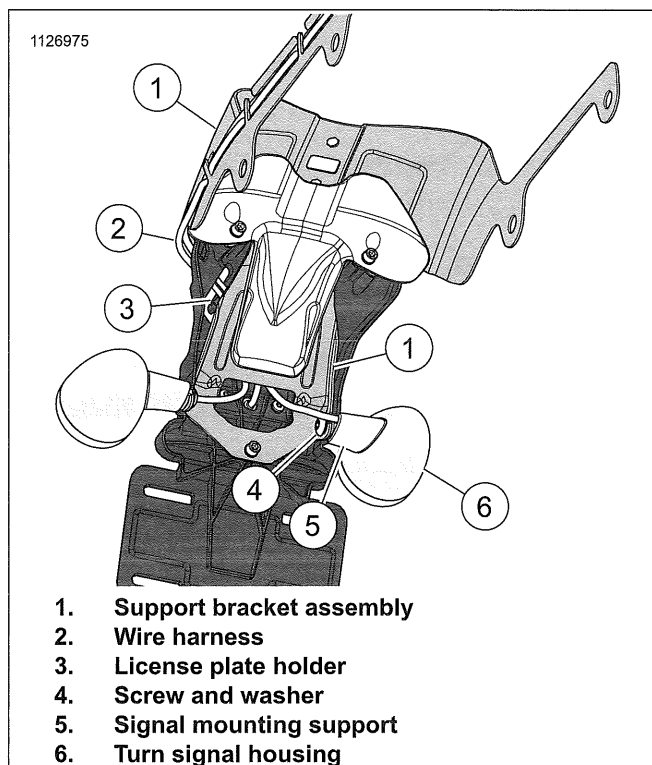

Figure 7-83. Center Mount Turn Signal
4. See Figure 7-83. Remove wire harness (2) from support bracket assembly (1) and license plate holder (3).
- a. Remove screw and washer (4).
- b. Disassemble signal mounting support (5) and turn signal housing (6).
1. See Figure 7-83. Assemble left or right turn signal.
a. Assemble signal mounting support (5) and turn signal housing (6).
b. Install washer and screw (4). Tighten.